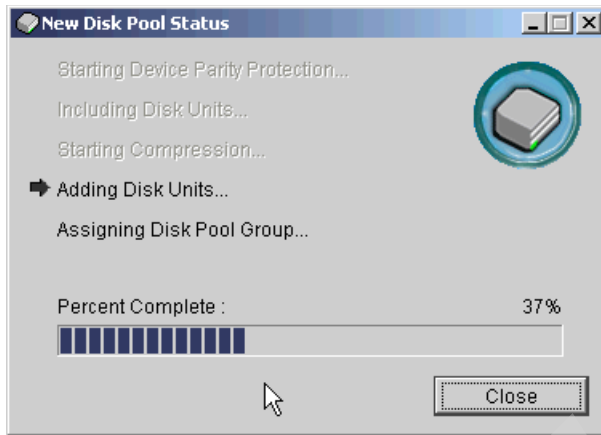

Figure 5-33 New Disk Pool Status
12. Take note of and respond to any messages that display. After you take any necessary action regarding any messages, you see the New Disk Pool Status window (Figure 5-33), which shows the progress. This step might take some time, depending on the number and size of the logical units that are being added.